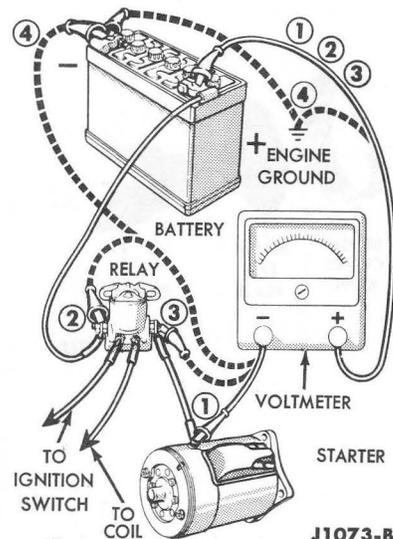

FIG. 9—Starter Circuit Test
Excessive resistance in the starter circuit can be determined from the results of this test. Make the test connections as shown in Fig. 9. Crank the engine with the ignition OFF. This test is accomplished by disconnecting and grounding the high tension lead from the spark coil and by connecting a jumper from the battery terminal of the starter relay to the ignition switch terminal of the relay.
1. With the voltmeter negative lead connected to the starter terminal and the positive lead connected to the battery positive terminal (Fig. 9, connection ①)0.5 volt.
2. With the voltmeter negative lead connected to the battery terminal of the starter relay and the positive lead connected to the positive terminal of the battery (Fig. 9, connection ②)0.1 volt.
3. With the voltmeter negative lead connected to the starter terminal of the starter relay and the positive lead connected to the positive terminal of the battery (Fig. 9, connection ③)0.3 volt.
4. With the voltmeter negative lead connected to the negative terminal of the battery and the positive lead connected to the engine ground (Fig. 9, connection ④) . . .0.1 volt.